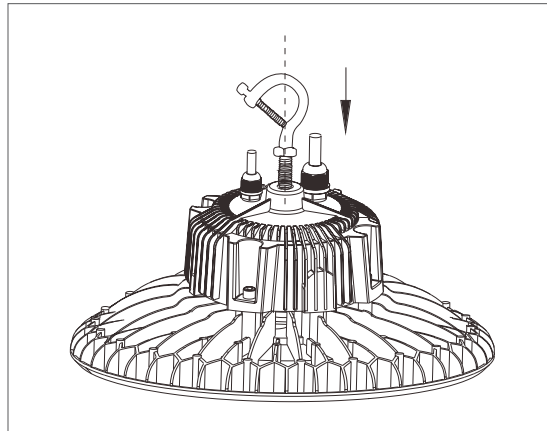

FIGURE 1
- A) Screw suspension hook onto high bay fixture and tighten. (Figure 1)